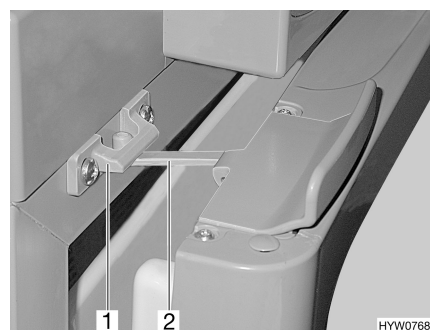

Fig. 66 Refrigerator door in ventilation position (Thetford)
- Open the lock (Fig. 66,2) and snap it into the locking catch (Fig. 66,1). The refrigerator door will then stay slightly open.